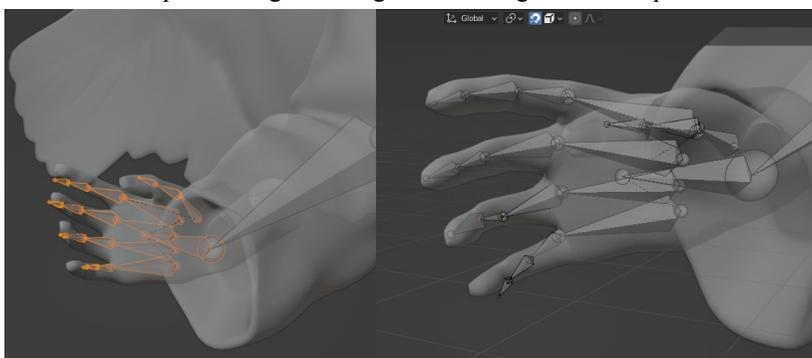

Figure 12-3 Positioning the Bones of an Armature
4. With the armature selected switch to Edit mode and roughly line up the armature with the mesh. For this first stage I suggest you stick with box select mode and select parts of a limb to move and rotate as one block, positioning in stages. For instance, first select the whole of the right arm and rotate it to about the correct orientation and position it so the elbow is in the right place, then select just the forearm and hand and adjust it so the wrist is nearly in the right place, and finally select just the hand to rotate the wrist to match the angel's hand. Obviously you need to move the view position around to help with this but you will also benefit from switching between normal rotation, in the plane of the screen, and track-ball rotation using shortcut R twice. On the left of Figure 12-3 you can see the final positioning of the right hand using this technique.
6. You should be able to get the feet lined up by selecting the three bones involved and rotating and moving them as described above. To position the knees you need to select just the ball representing the joint between the femur and the shin bone which can be moved without disturbing the position of the ankle or hip joints. On the right side of Figure 12-3 I have selected the first joint from the tip of the right ring finger. However notice too, at the top of the image, that I have switched snapping on and set the type of snapping to *Volume*, this is crucial for rigging animals. The other setting you may find helpful is to change the selection mode to *Tweak*, the shortcut for quickly changing from one selection mode to another is *W*. You should now find the rigging of all the finger bones really quite easy. When you've finished, don't forget to turn snapping back off otherwise you will be scratching your head when you come to pose the armature later.